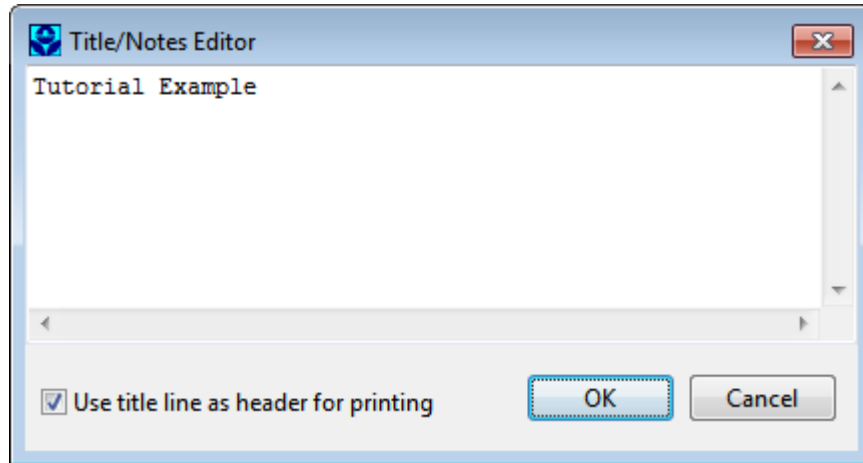

Figure 2-8 Title/Notes editor
2. In the Project Title/Notes dialog that appears (see Figure 2-8), enter “Tutorial Example” as the title of our project and click the **OK** button to close the dialog.